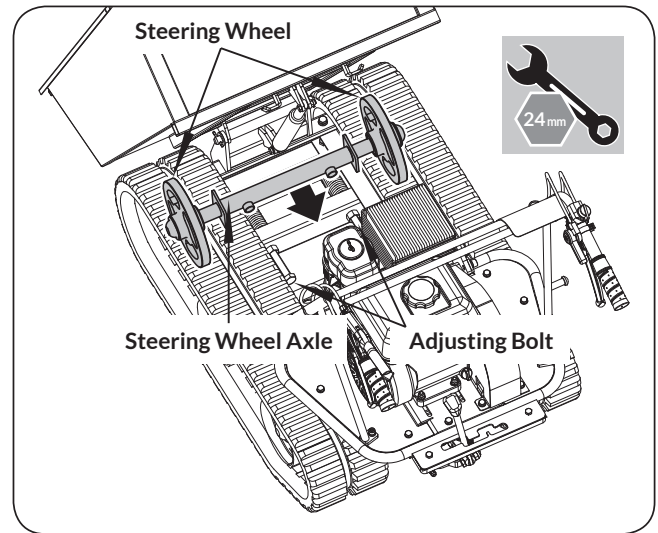

Figure 9b
3. Loosen the adjusting bolts and pull the steering wheel axle toward the engine, then track will be loosen. (See **Figure 9b**)